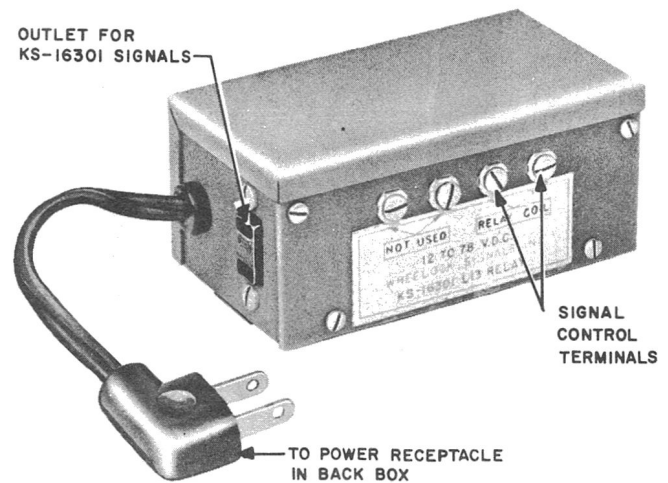

Fig. 11 — KS-16301, List 13 Relay
3.10 **List 13, Relay**, shown in Fig. 11, is designed to operate on 12 to 78 volts dc.